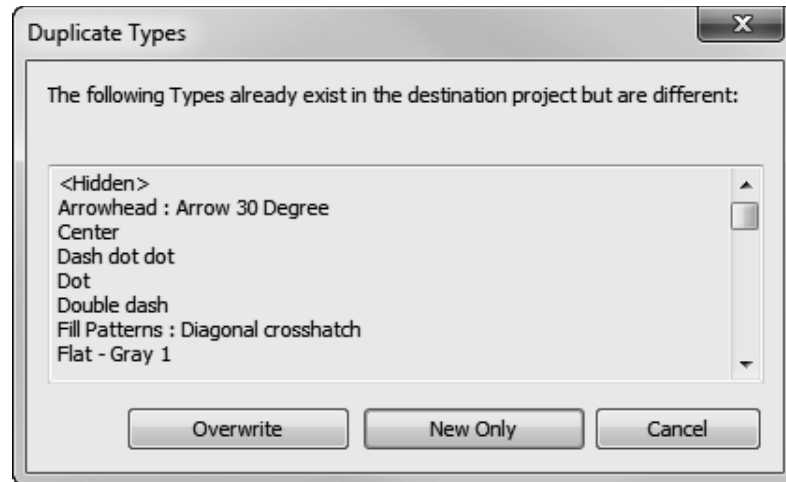

FIGURE 7-2.2 Transfer project settings; duplicate types warning
10. Scroll down to see all the “duplicate types” so you have an idea what overlap there is; click **Overwrite** (see Figure 7-2.2).